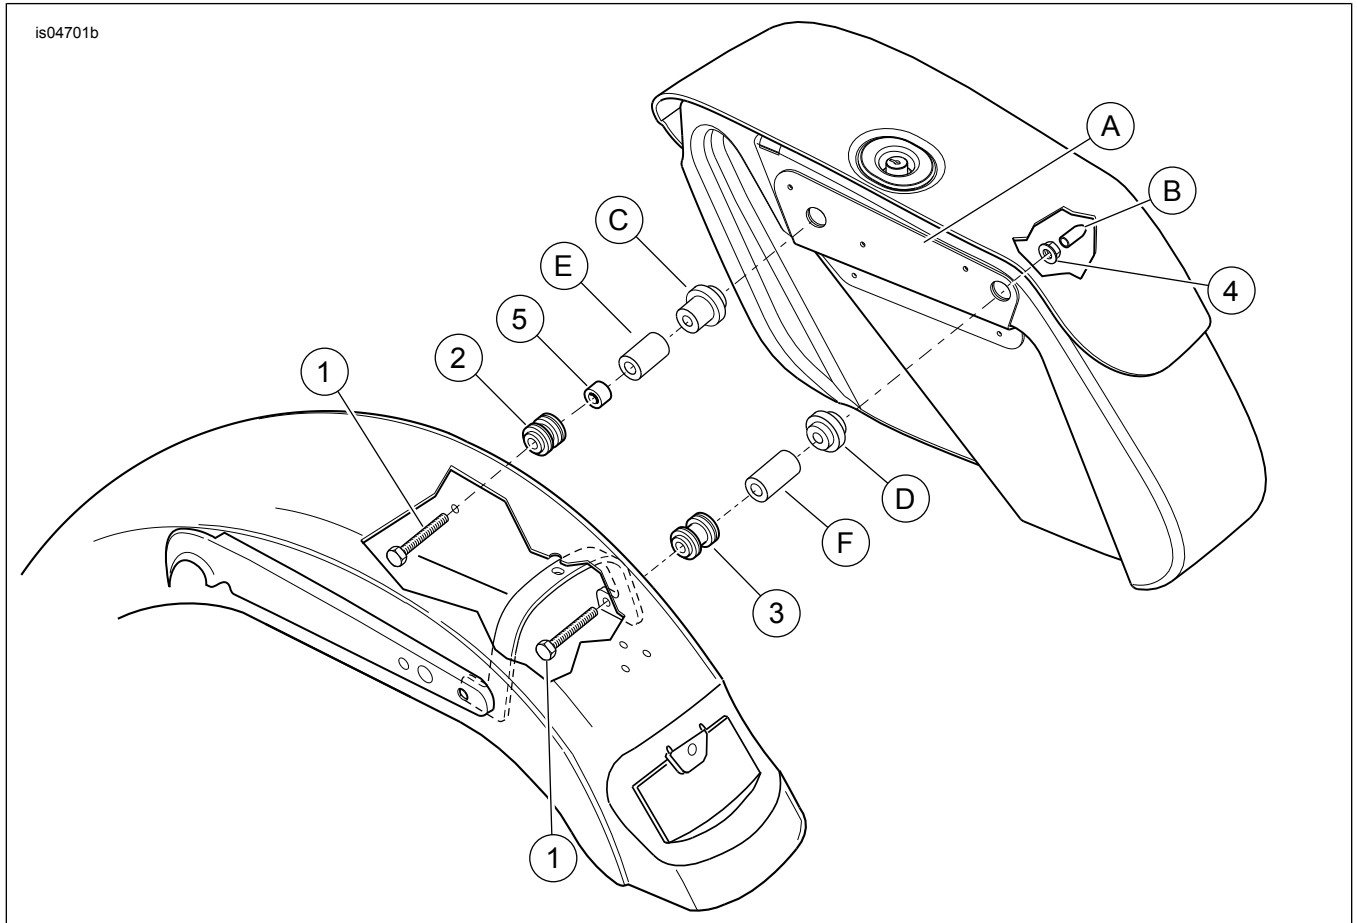

Figure 2. Service Parts: Docking Hardware, Sportster with Saddlebags
See Figure 2 and Table 1.
1. **For 88312-07 and 90201325 Saddlebag Kits:** See Figure 2. Obtain a front docking point (2), cap screw (1) and spacer (F) from kit. Note the small-diameter collar on one end of the docking point. From the underside of the fender, insert the screw through the forward hole in the fender, and through the fender support and cover. Place the docking point onto the screw threads, collar end first. Place the front docking point spacer onto the screw threads as shown. **For 90201321 Saddlebag Kit:** See Figure 2. Obtain a front docking point (2), cap screw (1) and spacer (C) from kit. Note the small-diameter collar on one end of the docking point. From the underside of the fender, insert the screw through the forward hole in the fender, and through the fender support and cover. Place the docking point onto the screw threads, collar end first. Place the front docking point spacer onto the screw threads as shown, with the short end facing out.
2. **For All Other Saddlebag Kits:** See Figure 2. Obtain a front docking point (2), cap screw (1) and spacer (5) from kit. Note the small-diameter collar on one end of the docking point. From the underside of the fender, insert the screw through the forward hole in the fender, and through the fender support and cover. Place the docking point onto the screw threads, collar end first. Place the spacer onto the screw threads. Place the front docking point spacer (5) onto the screw threads as shown, with the short end facing out.